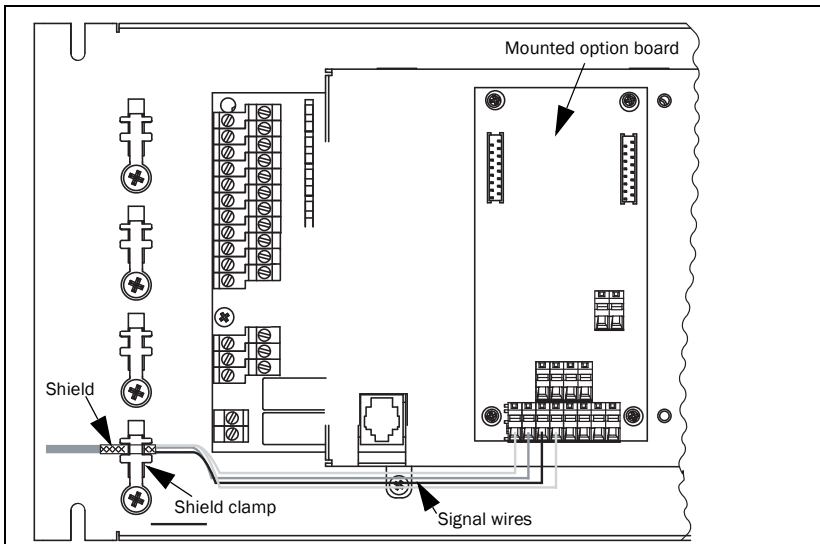
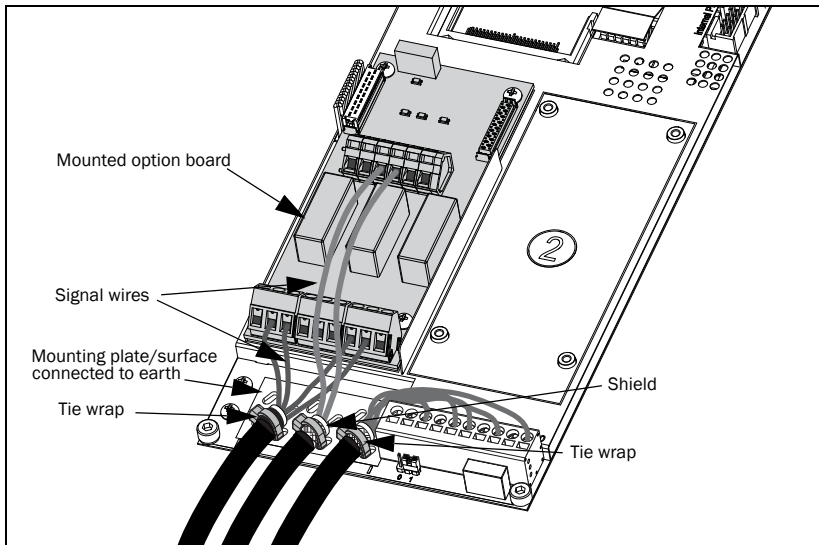

Fig. 2 General shielding principle on AC drives
Fig. 3 General shielding principle on Emotron TSA softstarter (example with I/O board)
Shielded twisted pair cables are recommended. Connect the cable shield firmly (low ohmic connection) to the mounting plate (PE) according to Fig. 2 on AC drives or Fig. 3 on Emotron TSA.